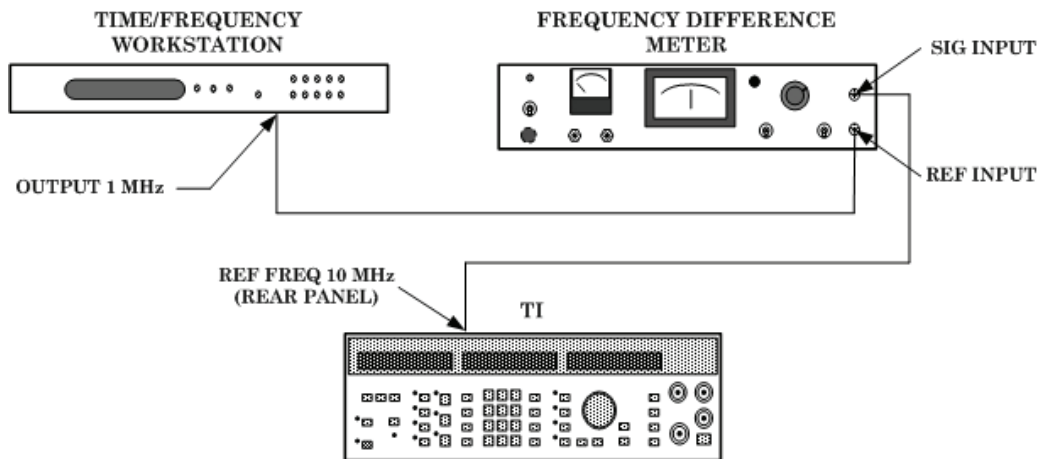

Figure 1. Internal oscillator stability.
- c. Connect equipment as shown in figure 1 below: